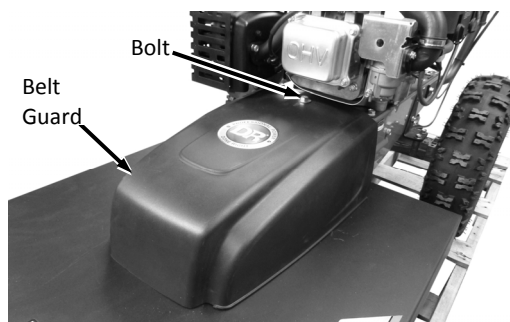

Figure 9
10. If the Blade Engage Cable is adjusted properly, position the Belt Guard and secure with the 3/8-16 X 1.5" Flange Bolt using a 9/16" Wrench (Figure 9).